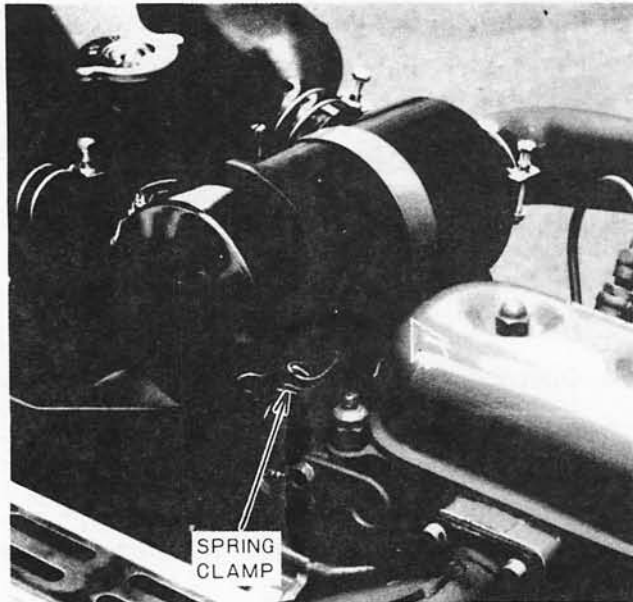

Figure 28 — Air Cleaner — Assembled
Checking Dirt Level: Check the dirt level in the dust pan daily or every 10 hours (Figure 28).
1. Loosen spring clamps and remove dust cap (Figure 28).